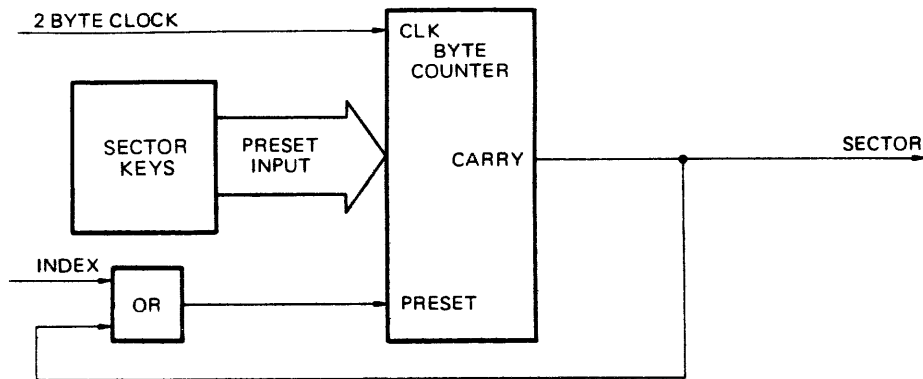
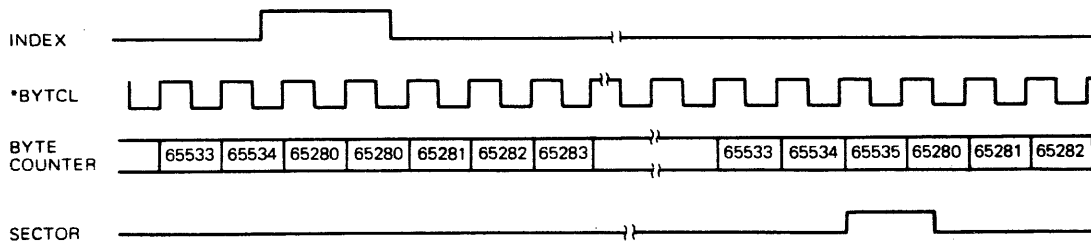

Figure 4.64 Sector generator block diagram
Figure 4.65 Sector generator timing chart
The Index signal (four bytes) from the PLO circuit enables the preset input to the byte counter. An example of 512 byte sector length is described as follows; The value loaded into the byte counter is specified by turning on keys 1 to 7 of SW4 and key 1 of SW5. The binary value of the keys not turned on (SW5 keys two to seven) equals 65,280. The Index signal causes the byte counter to be reset to 65,280. The counter is then clocked by the positive going edge of the 2 Byte Clock (2 BYTCL) signal until it reaches 65,535 (511-byte clocks). Then a carry signal which is used as a new preset enable to the byte counter is issued. The carry signal is applied to next flip-flop and then converted into 24-bit pulse of the Sector signal. The block diagram is shown in Figure 4.64, and the timing chart is shown in Figure 4.65.